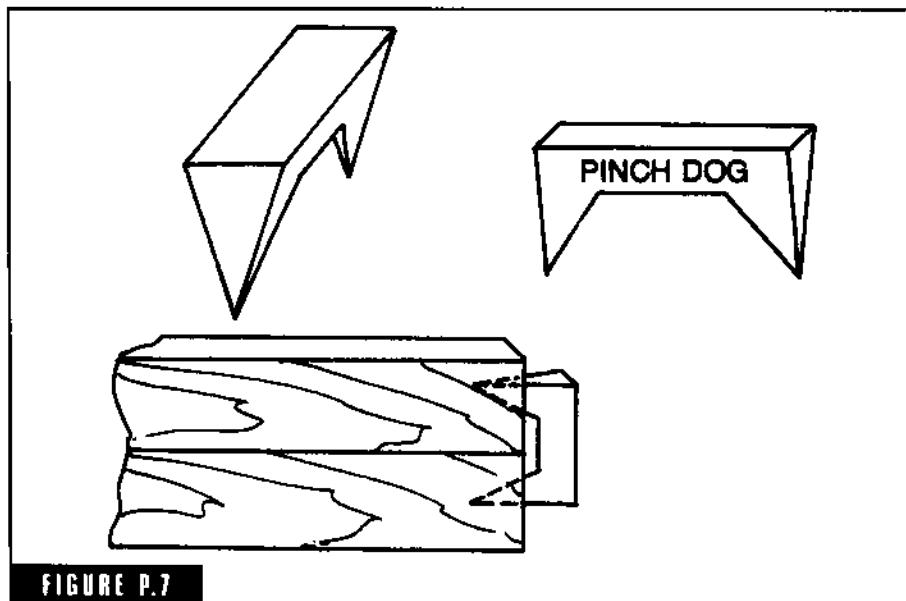

FIGURE P.7
**pinch dog** A steel C-shaped device with sharp points tapered on their inner face to give a clamping effect when driven into wood (Fig. P-7). The further in, the tighter the clamp (pinching) effect. Used in pattern work to hold one member to another while gluing, nailing, or drilling. The prime use is in gluing up stock. Some